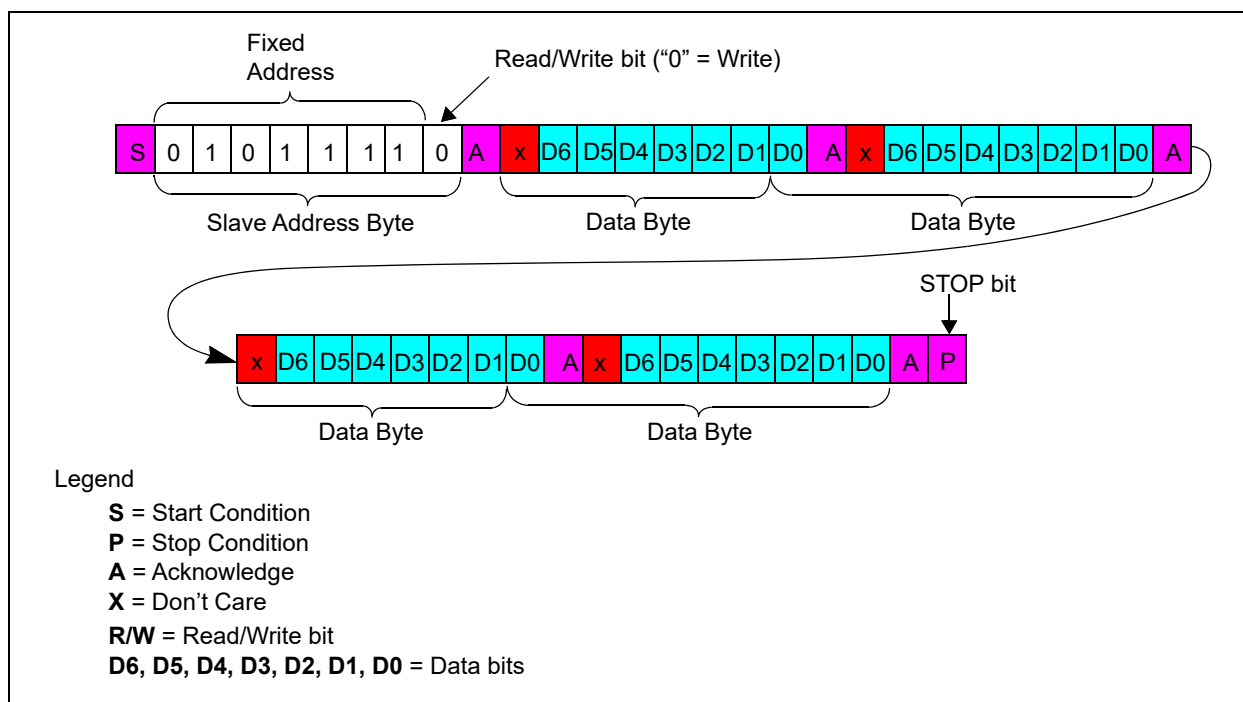

FIGURE 5-12: I²C Write Command Format.
Data bytes may be written after each Acknowledge. The command is terminated once a Stop (P) condition occurs. Refer to Figure 5-12 for the write sequence. For a single byte write, the master sends a STOP or RESTART condition after the 1st data byte is sent.